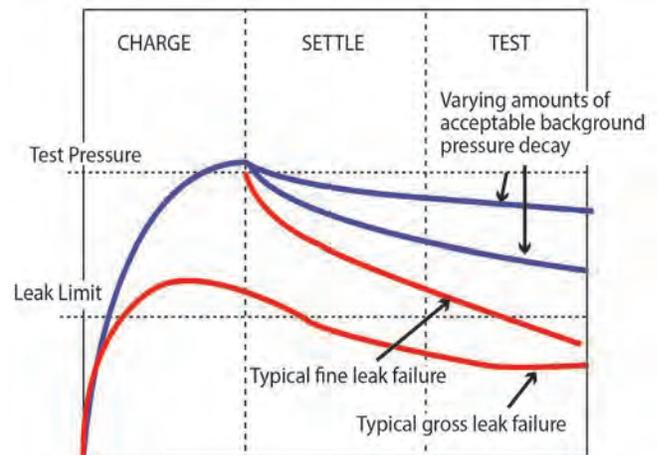

Figure 2. Examples of typical decay
**Decay** is a term used for the difference in pressure from its initial state of complete pressurization to the pressure at the end of the “test” phase of the leak test cycle previously discussed. Figure 2 shows examples of “acceptable” and “leak failure” decay.